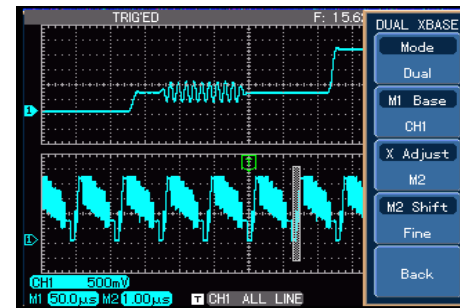

Figure 3-13 Dual time base function
4. Press [F1] to select dual time base, then press [F2] to select CH1. Press [F3] to set time base graticule to M1. Adjust the M1 time base range with the **SEC/DIV** knob as shown in Figure 3-13. Then press [F3] to select M2 and adjust the M2 time base range with the **SEC/DIV** knob as shown in Figure 3-13.